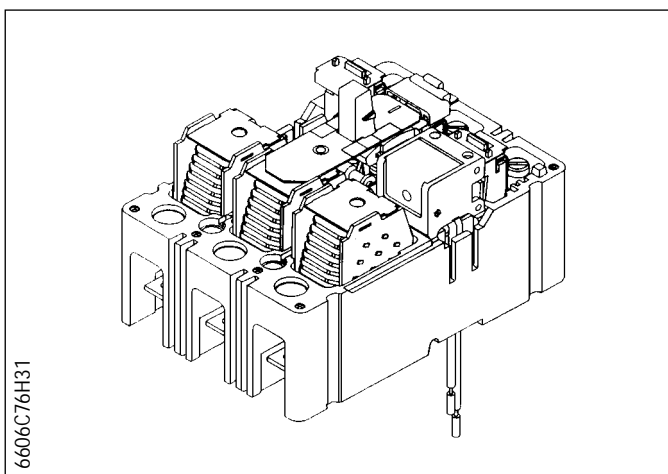
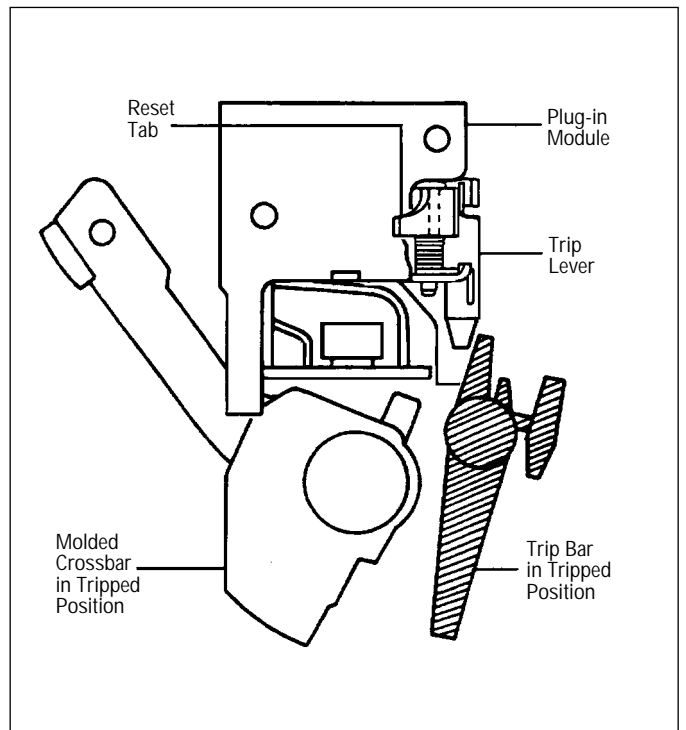

Figure 1-1 Undervoltage Release Mechanism (Handle Reset) Installed in F-Frame Circuit Breaker
Figure 2-7 Correct Position for Trip Lever and Trip Bar
The undervoltage release mechanism (UVR) (Figure 1-1) monitors a voltage (typically a line voltage) and trips the circuit breaker when the voltage falls to between 70 and 35 percent of the solenoid coil rating. The UVR consists of a continuous rated solenoid with a plunger and tripping lever mounted in a plug-in module. The tab on the tripping lever resets the UVR when normal voltage is restored and the circuit breaker handle is moved to the reset (OFF) position. With no voltage applied to the UVR, the circuit breaker contacts will not touch when a closing operation is attempted.
- g. **Before plug-in module seats fully in mounting slots, reset the circuit breaker and put the handle in the OFF position. Then seat the UVR. Make sure UVR trip lever touches the flat surface of trip bar (see Figure 2-7) and reset tab is operated by the handle arm (see Figure 1-1).**
- g. **Before plug-in module seats fully in mounting slots, reset the circuit breaker and put the handle in the OFF position. Then seat the UVR. Make sure UVR trip lever touches the flat surface of the trip bar (see Figure 2-7) and reset tab is operated by the handle arm (see Figure 1-1).**